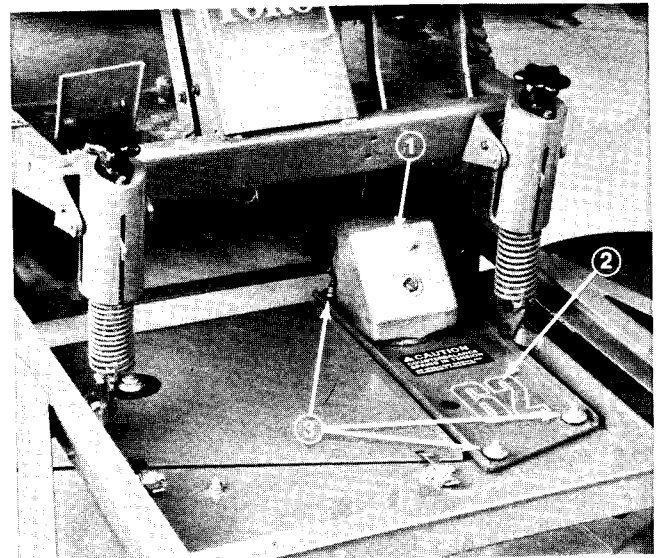

Figure 30
4. To install a new belt, the gearbox base must be removed. Remove the four carriage bolts, nuts and washers holding the gearbox base to the deck housing (Fig. 30).